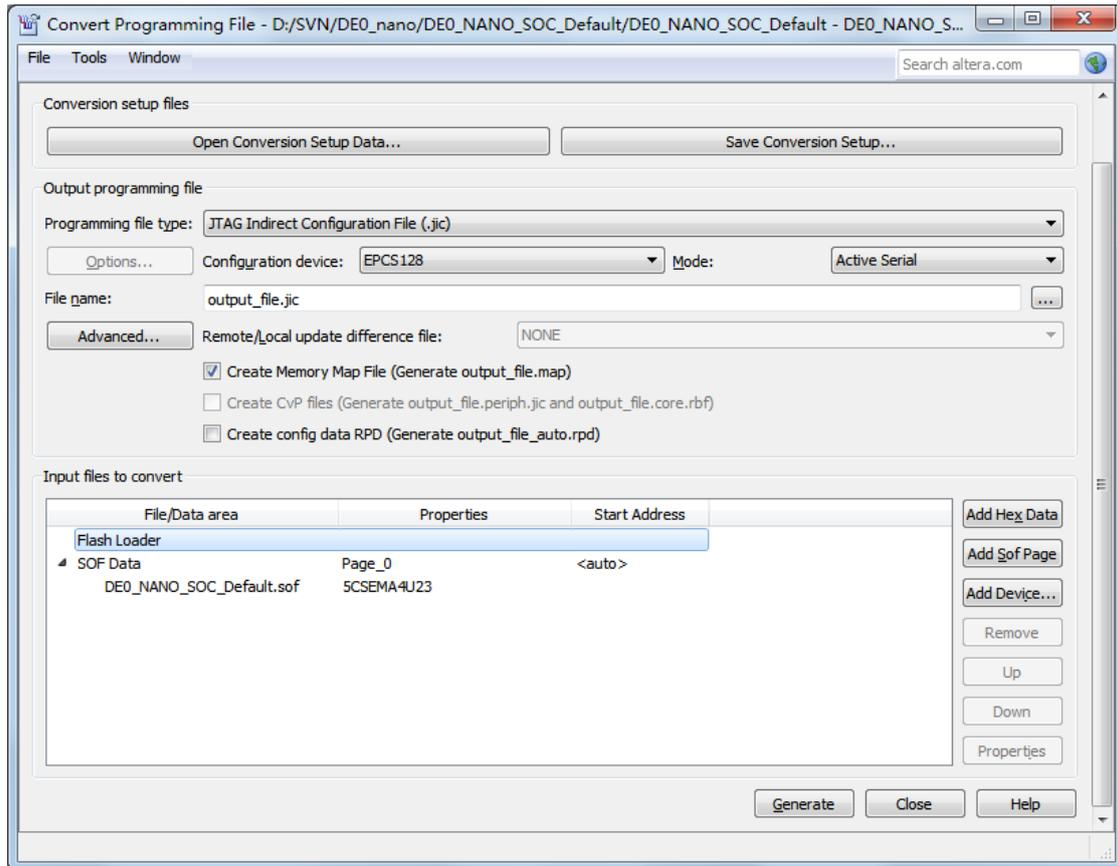

Figure 7-4 Click on the “Flash Loader”
10. Click on the **Flash Loader** and click **Add Device**, as shown in Figure 7-4.